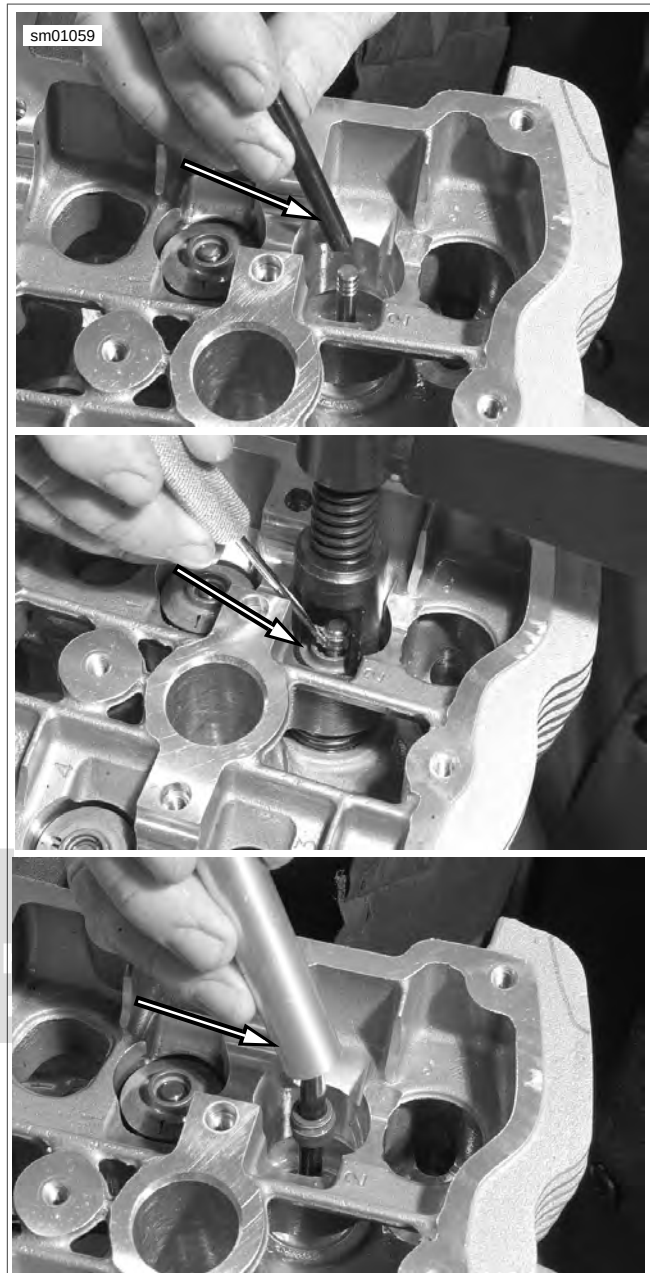

Figure 3-76. Valve Seal Installation
5. See Figure 3-76. Place tapered pin of VALVE GUIDE SEAL INSTALLER (Part No. HD-45322) over valve stem and position **new** seal on the tapered pin. Drive seal into position.